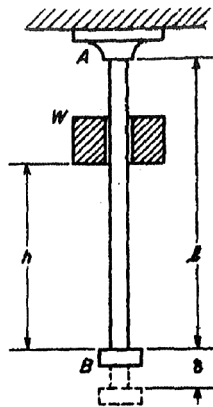

Fig. 3(a)
- 3(a) Consider a vertical bar of uniform cross-section with a flange at the lower end as shown in Fig. 3(a). Weight 'W' is released from a height 'h' and falls freely along the bar until it strikes the flange. Determine the maximum deflection 'δ' of the bar and also calculate the maximum stress